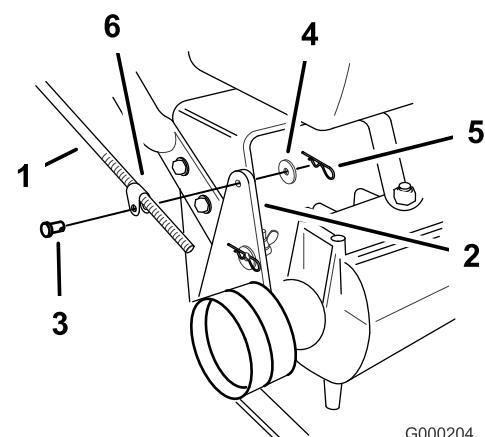

Figure 17
- 1. Remove the hairpin cotter, washer and clevis pin securing control rod fitting to the idler bracket (Figure 17).